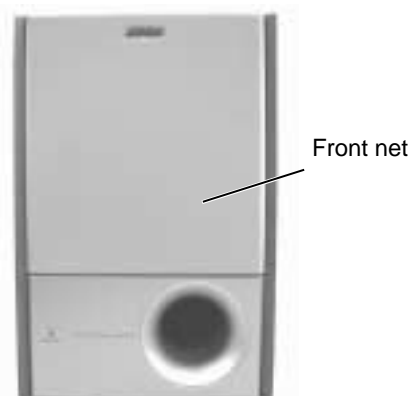

Fig.1
■ Removing the front net (See Fig.1, 2)